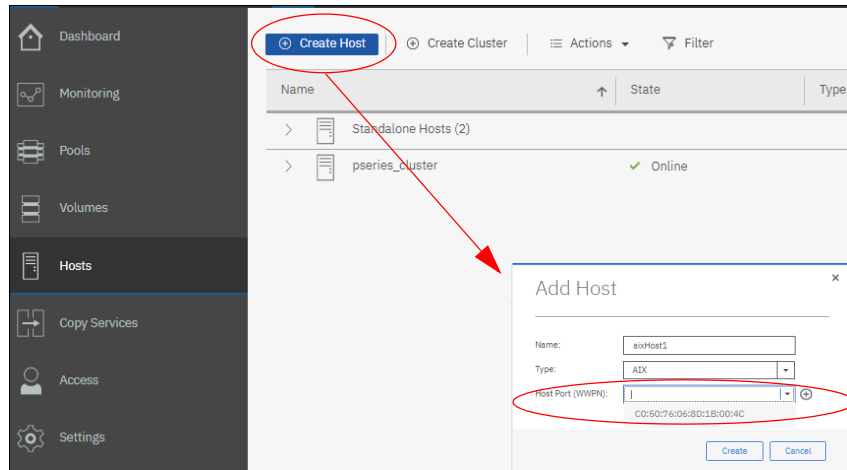
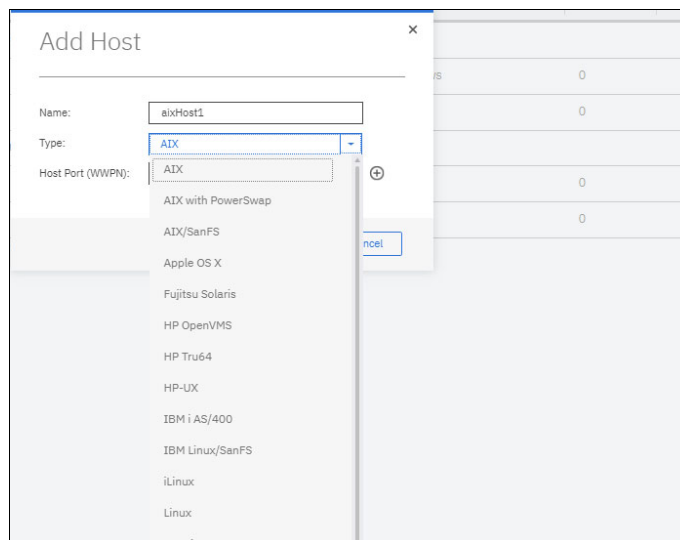

Figure 9-58 Create Host
Figure 9-59 Add Host window that shows options for the host type
6. In the Hosts window, click **Create Host**, as shown in Figure 9-58.
7. The Add Hosts window opens (Figure 9-59). Specify the following items:
- Type: The operating system (OS) of the host to add.
- Host port (WWPN): Optionally, provide the WWPN of the host port. If the host port logged in to the system, it can be selected from the Host Port (WWPN), list as shown in Figure 9-58.